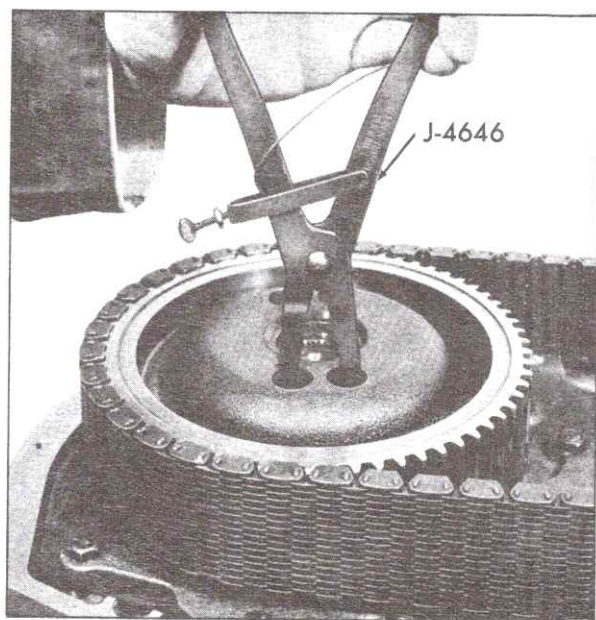

Fig. 7-147 Removing Sprocket Snap Ring
3. Install Snap Ring Pliers, J-4646, into sprocket bearing retaining snap rings located under the drive and driven sprockets, and remove snap rings from retaining grooves on support housings. Fig. 7-147